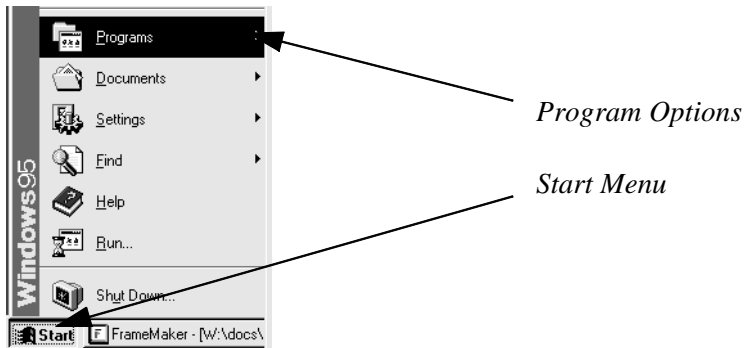

Figure 2: Programs Option in the Start Menu.
1. Select the **Programs** option from the **Start** menu on the lower left corner of the screen (*Figure 2*).